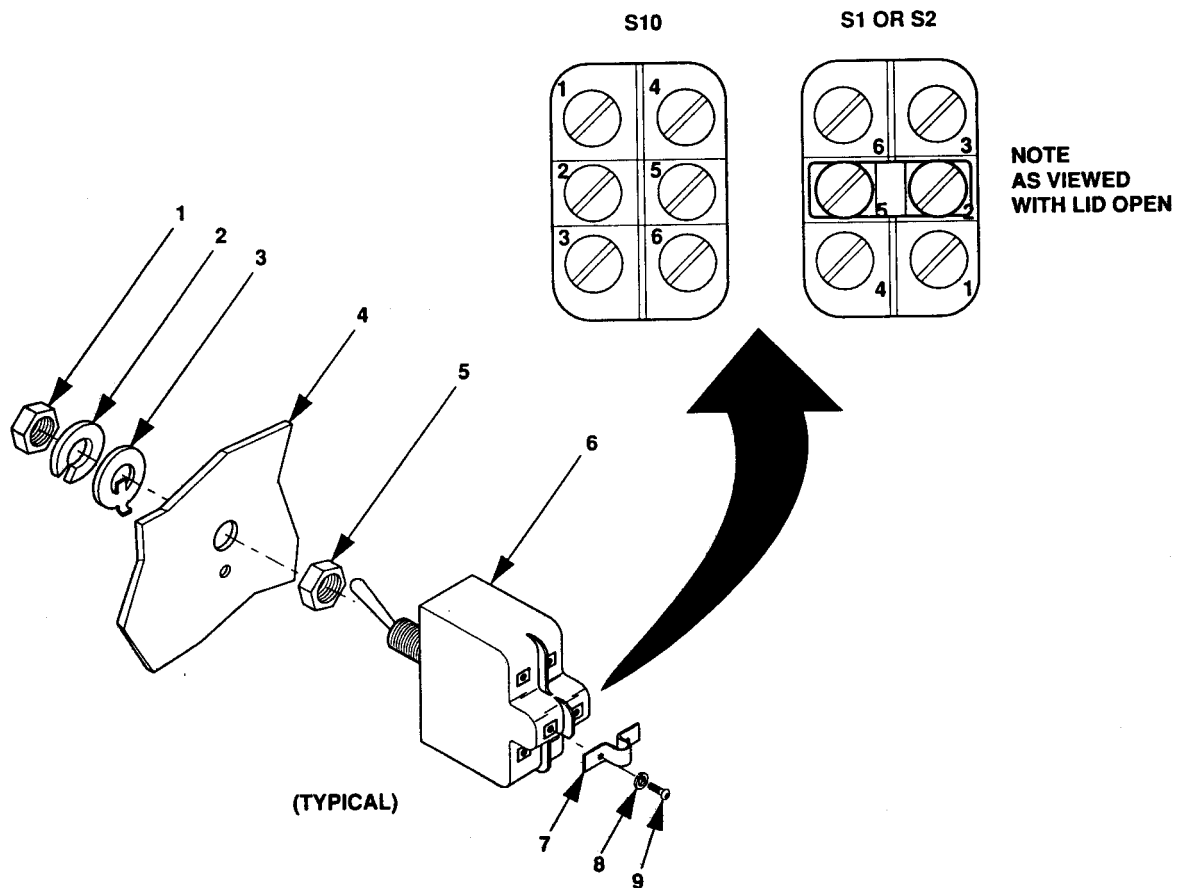

Figure 4-16. Toggle Switch.
1. Tag wires connected to terminals of switch to be replaced and remove screws (9, figure 4-16), flat washers (8), and conductor bus (7).
2. Remove hex nut (1), lock washer (2), locking ring (3), and switch 6.